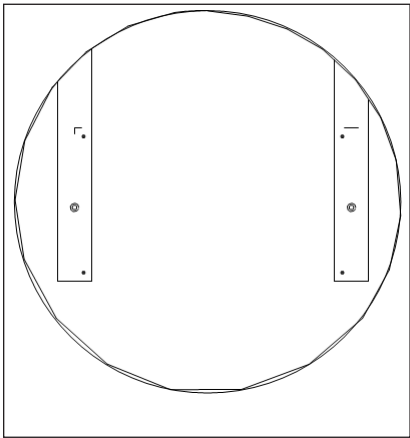

Figure 9: Pre-Drill Holes into Tube
4. Pre-drill $\frac{1}{8}$ " [3 mm] holes into the tube at the marked mounting locations. Refer to **Figure 9**.
- 10. Mark the screw locations through the mounting screw holes with a punch. Pre-drill 1/8" [3 mm] holes into the tube at the marked mounting locations. Refer to **Figure 9**.